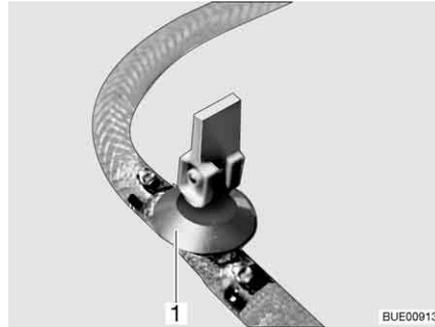
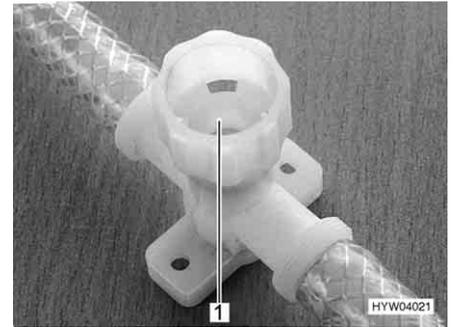

Fig. 227 Drain cock (with rocking lever)
Fig. 228 Drain cock (with twist cap)
- Open all drain cocks. To do this, position the drain cock's rocking lever (Fig. 227,1) vertically or turn the drain cock's cap (Fig. 228,1) in an anti-clockwise direction.